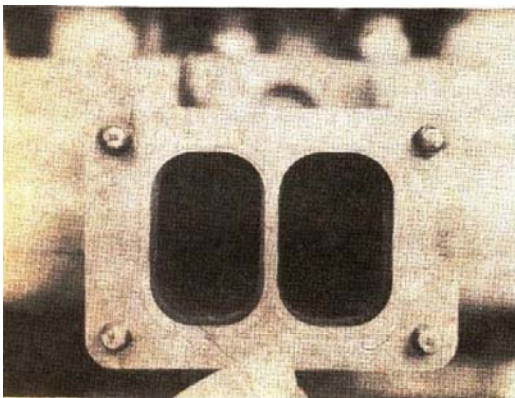

Fig. 14-98, Install the turbocharger mounting gasket
2. Install the gasket over the studs. The side of the gasket marked "OUT" must be installed toward the turbocharger. Fig. 14-98.
Caution: The improper use of gaskets. (Fig. 14-98) could result in damage to the turbocharger or cause exhaust leakage.